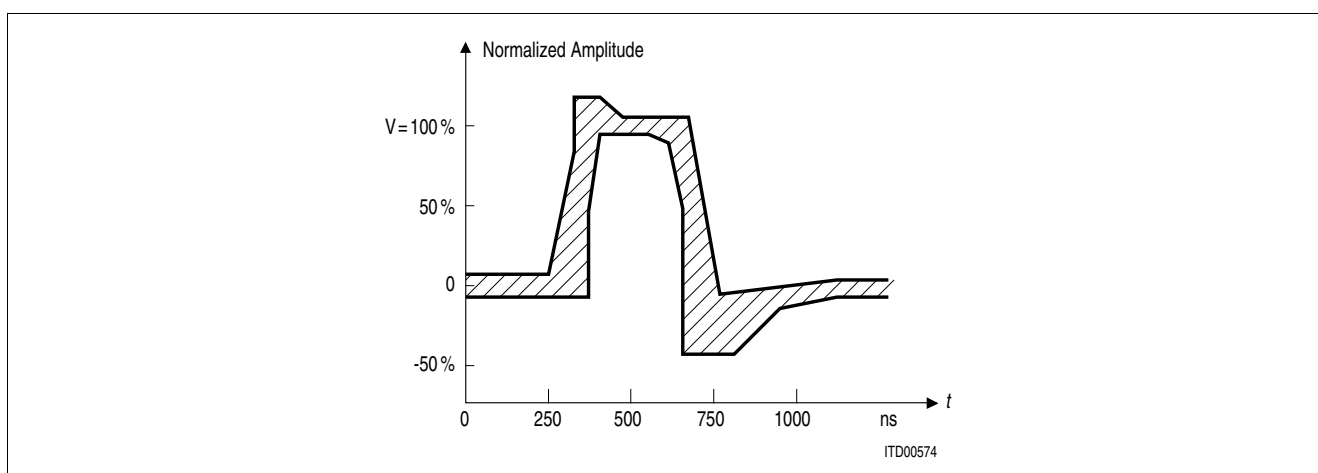

Figure 64 T1 Pulse Shape at the Cross Connect Point
- For T1: FCC68; ANSI T1. 403 1999, figure 4; ITU-T G703 11/2001, figure 10 (for different cable lengths), see Figure 64. For measurement configuration were $R_{load} = 100 \Omega$ see Figure 40.
With the given values in Table 29 or Table 31, for transformer ratio: 1 : 2.4, cable type AWG24 and with $R_{load} = 100 \Omega$ the pulse mask according to ITU-T G703 11/2001, figure 10, see Figure 64, is fulfilled.